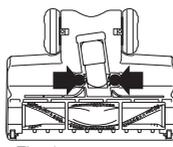
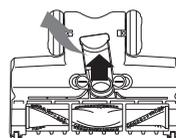

Fig. 27
Fig. 28
- 2 Squeeze tabs together and pull up to expose the airway. (Fig. 27, Fig. 28)